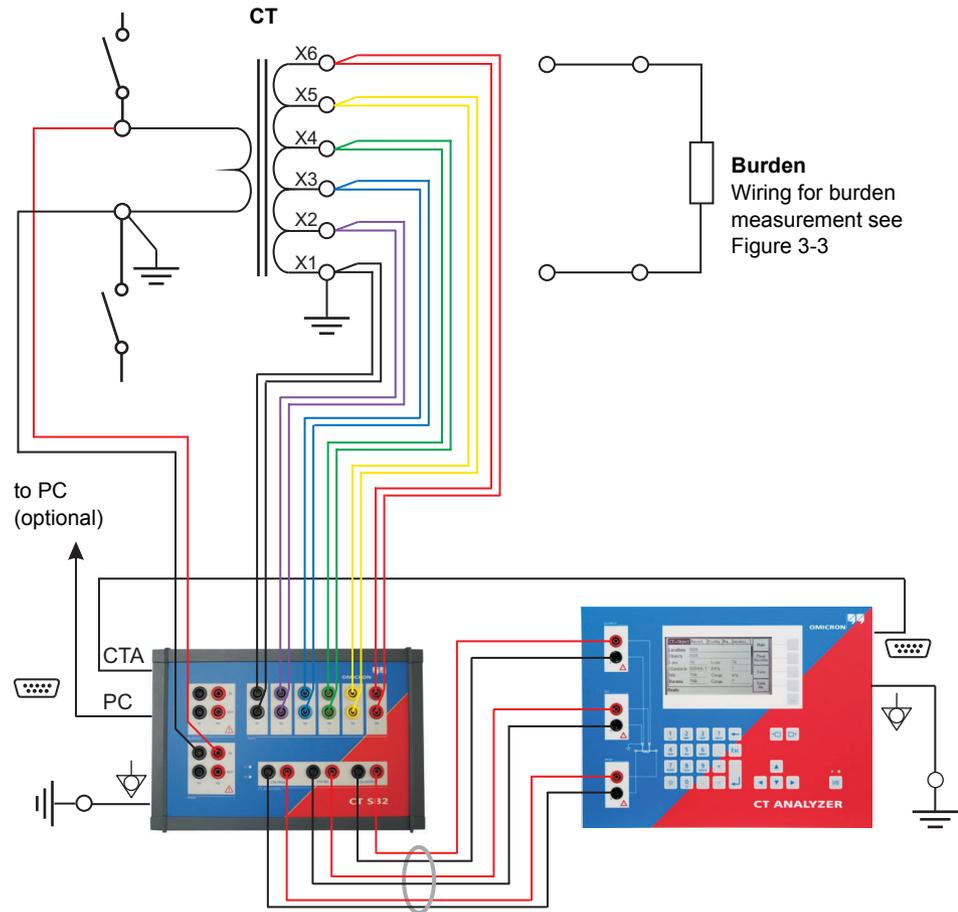
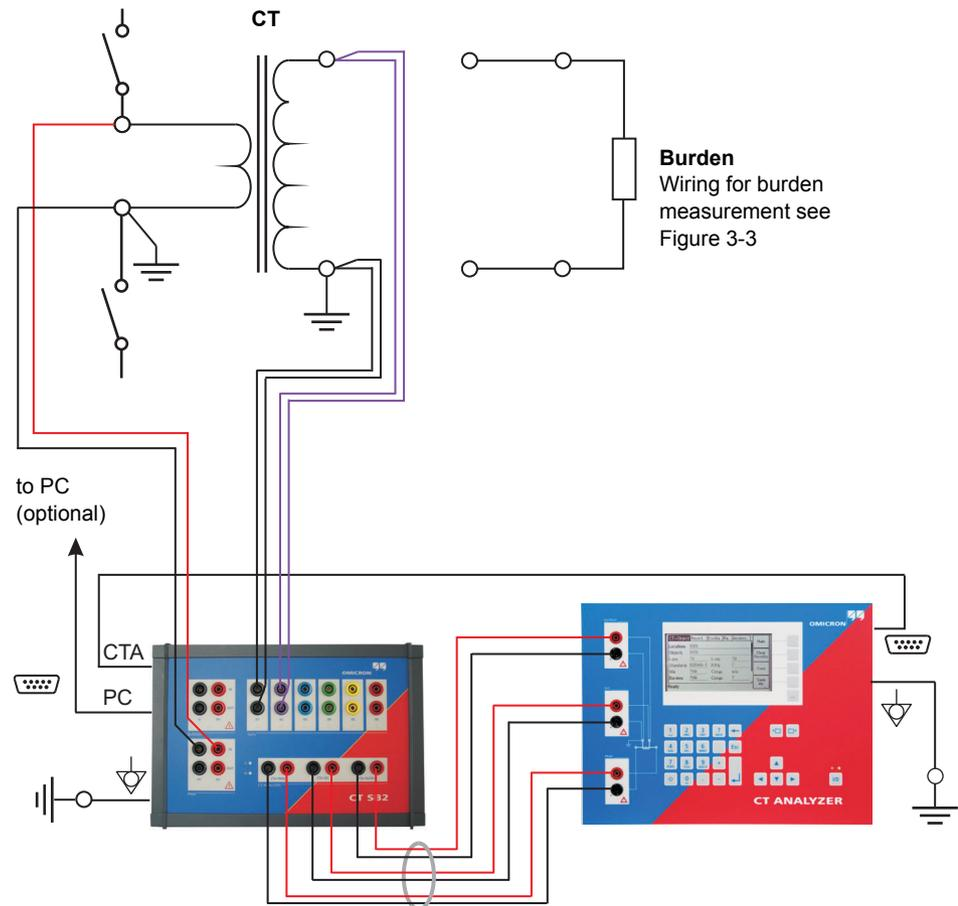
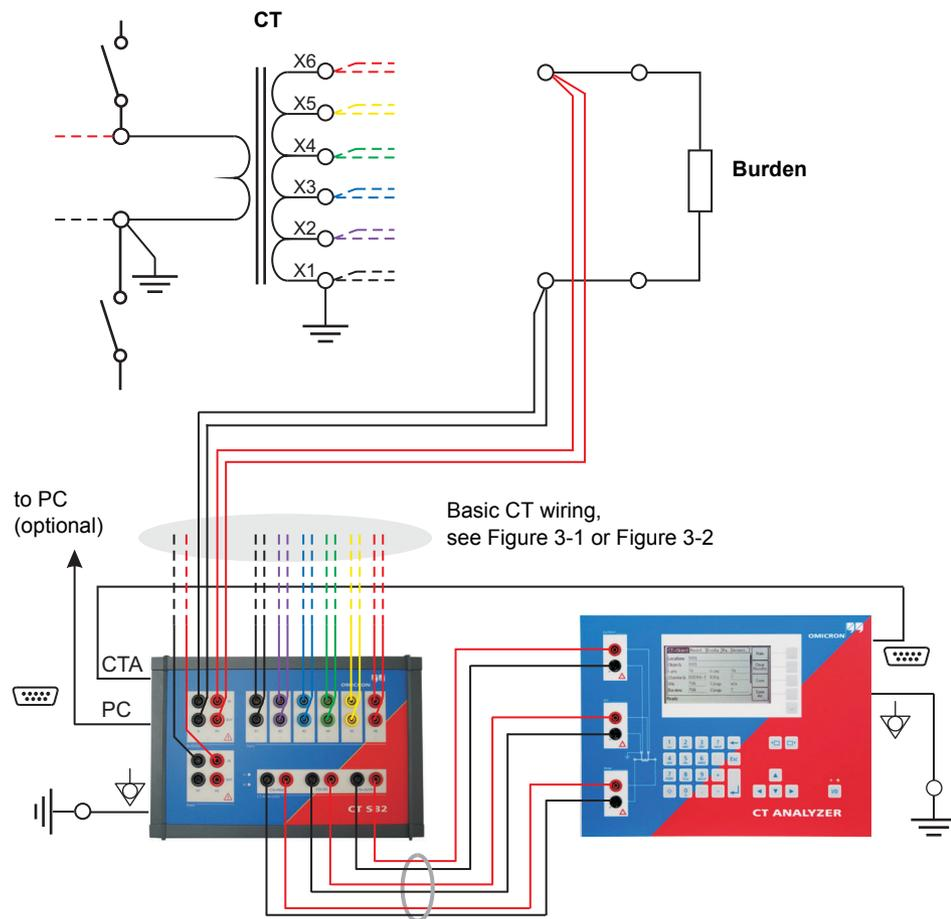
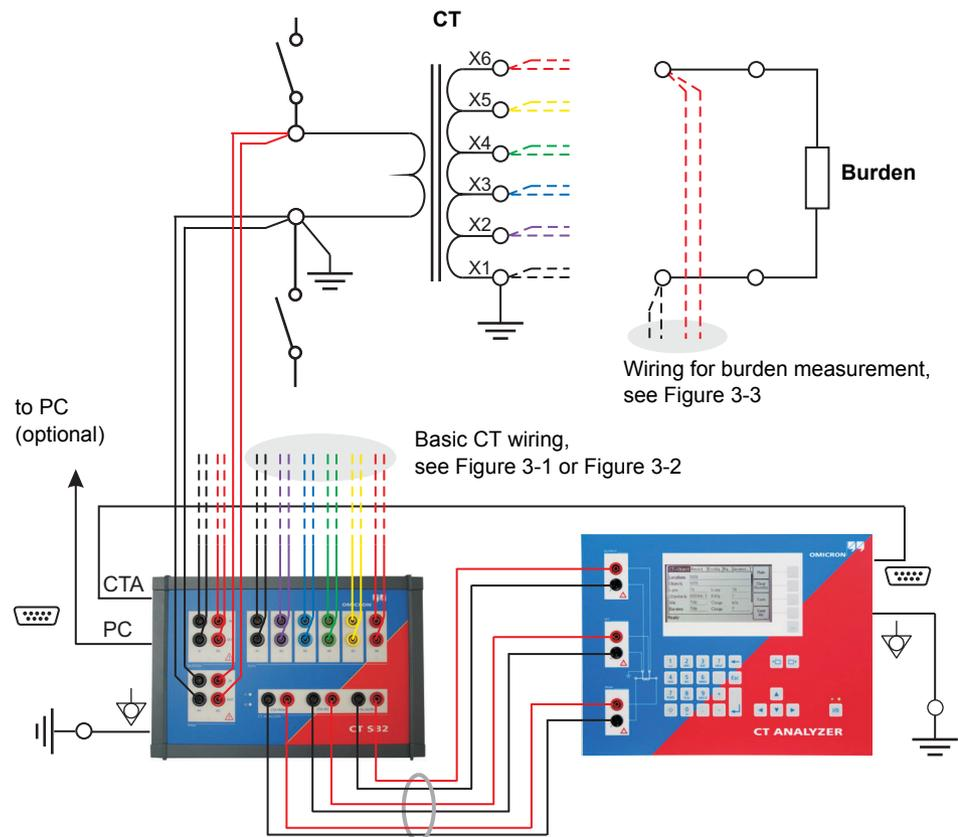

Figure 3-1 Basic measurement setup for multi-ratio CT testing (6 tap CT, no burden measurement, no primary winding resistance measurement)
Figure 3-2 Basic measurement setup for single-ratio CT testing (no burden measurement, no primary winding resistance measurement)
Figure 3-3 Additional wiring required for burden measurement
Figure 3-4 Additional wiring required for primary winding resistance measurement
Using the *CT SB2* switch box, CT testing, burden measurement and primary winding resistance measurement can be performed separately (i.e., using separate test procedures) or together in one test sequence. Figure 3-1 and Figure 3-2 show the basic wiring required for CT testing. To measure the burden and the primary winding resistance together with the CT test, the additional wiring shown in Figure 3-3 and Figure 3-4 is necessary.
The following wiring is required for burden measurement (in addition to the basic measurement setup shown in Figure 3-1 and Figure 3-2 and/or the additional wiring for primary winding resistance measurement shown in Figure 3-4, as required).
The following wiring is required for primary winding resistance measurement (in addition to the basic measurement setup shown in Figure 3-1 and Figure 3-2 and/or the additional wiring for burden measurement shown in Figure 3-3, as required).
1. Connect the *CT SB2*, the *CT Analyzer* and the CT under test as described in section 3.1 on page 19 and Figure 3-1 on page 20.